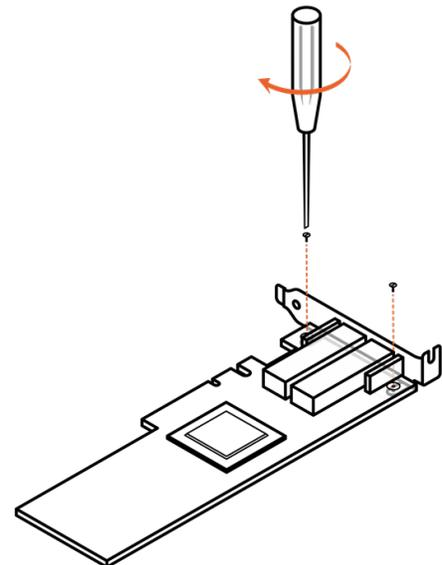

Figure 14-3. Installing the Short Bracket
3. Align the short bracket and tighten the screws into the PCIe card. Make sure that the ports align properly and that the base of the bracket aligns properly with the card. See Figure 14-3.